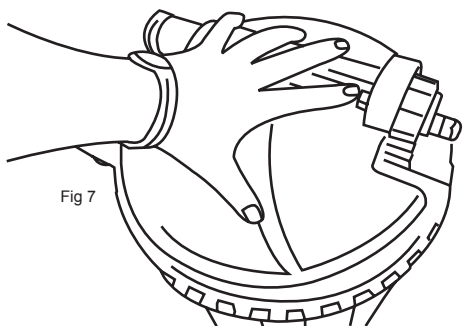

Fig 7
10. Line the waste removal pipe and delivery pipe up with the two holes in the top of the media basket. Press the lid of the unit down firmly. Fig 7